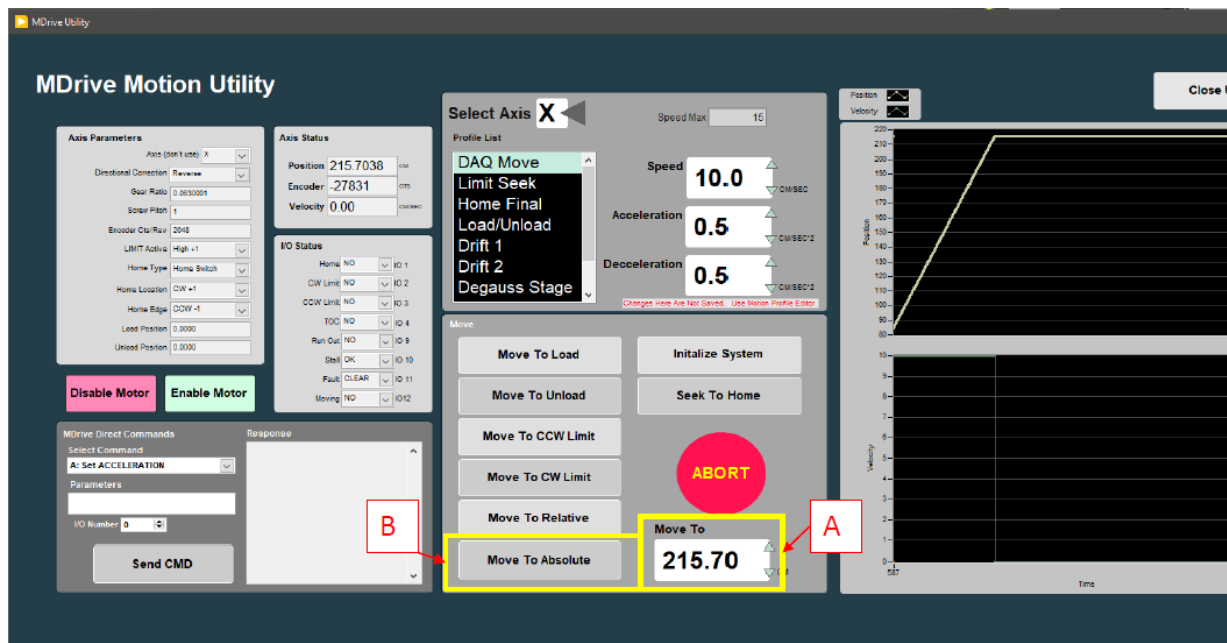

Figure A12: Model 202 Control Monitor Display
5. Turn on the power to the Model 202 Control Monitor (**Figure A12**, green box). The display should include the current temperature of the shield (TSH) and the SQUIDS (TSQ). T2S will be open. No heaters should be on at this time (**Figure A12**).